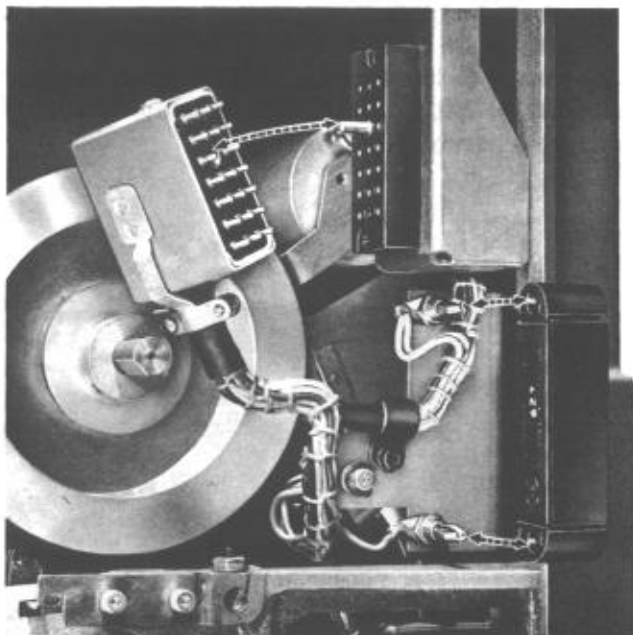

Fig. 6 — 2A Telephone Answering Set Showing Tungsol Thermal Flasher No. 627 Removed, 10A Recorder Plug, and Power and Control Unit Jack (J1)
4.04 If the No. 627 Tungsol thermal flasher becomes defective, remove it by grasping firmly and pulling straight away from the side of the answering set (see Fig. 6).
4.05 The F1 fuse is mounted in an HKP fuse holder located in the center of the TS1 terminal strip. For fuse inspection or replacement, turn top of fuse holder counterclockwise and withdraw. See Fig. 6 in C Section entitled 2A Telephone Answering Set, Installation.